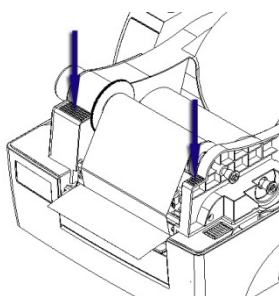

Figure 2.3.5
- 4) Press down the ribbon holder until it is locked, then close the top cover (see figure 2.3.5).